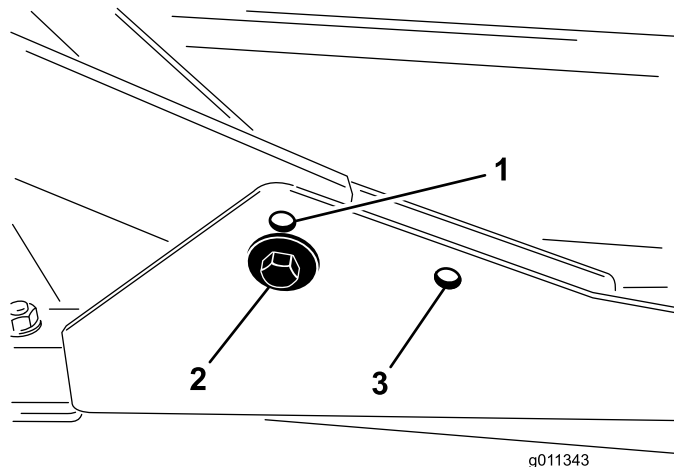

Figure 8
1. For heights of cut in the 2 to 7.6 cm (3/4 to 3 inch) range, mount the front carrier frames in the lower front mounting holes (Figure 8).
2. For heights of cut in the 6.3 to 10 cm (2-1/2 to 4 inch) range, mount the front carrier frames in the upper front mounting holes (Figure 8).
For all heights of cut, mount the rear cutting deck in the rear mounting holes (Figure 8).